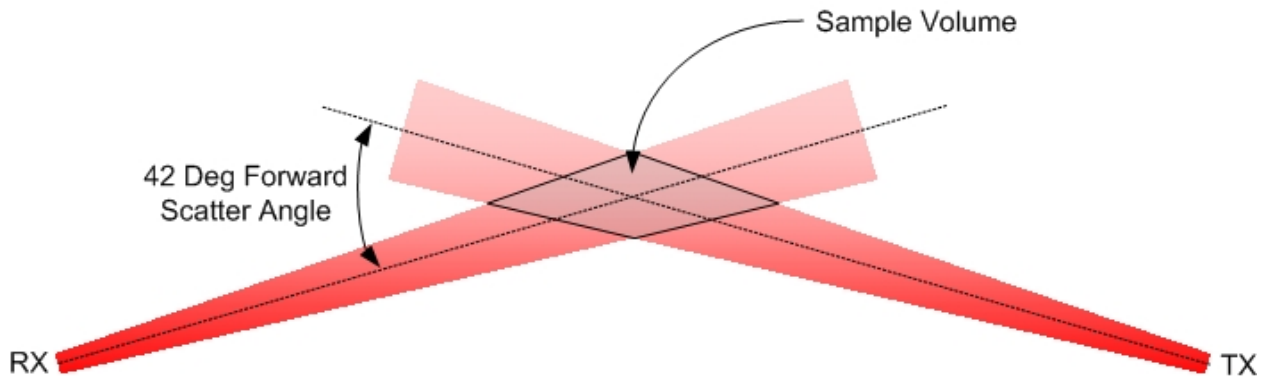

Figure 1.1-1 Forward Scatter Geometry
The Sentry™ uses the principle of forward scattering as shown in Figure 1.1-1. The optical system is designed such that the infrared light projected from the transmitter (TX) intersects the field of view of the receiver (RX) with a forward angle of 42°. The area of intersection is known as the sample volume. The 42° forward angle ensures performance over a wide range of particle sizes in the sample volume including smoke, dust, haze, fog, rain and snow.